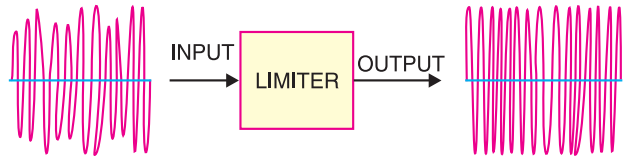

Fig. 16.22
3. Limiter Stage. The output from IF stage is fed to the limiter. This circuit is an IF amplifier tuned to 10.7 MHz but its main function is to remove AM interference from the FM signal. Fig. 16.22 shows how the limiter removes AM interference from the FM signal.